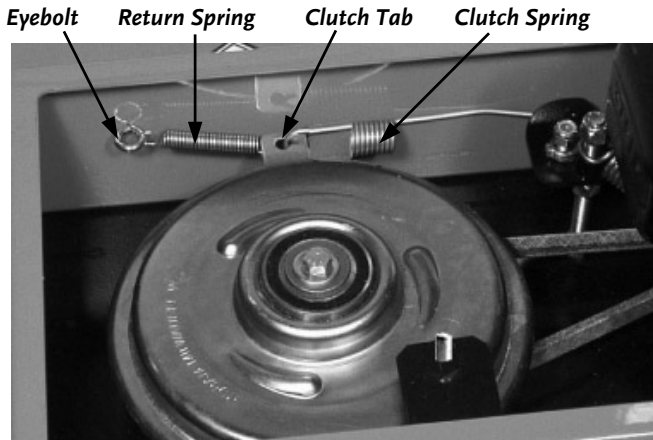

Figure 23
1. Remove one end of the Return Spring from the Eyebolt on the machine frame and from the Clutch Spring Hook at the Clutch Tab (**Figure 23**).
2. Remove the Clutch Spring from the Clutch Tab by rotating the tab toward the rear of the machine (clockwise) to relieve tension and unhook the Spring from the Tab (**Figure 23**).